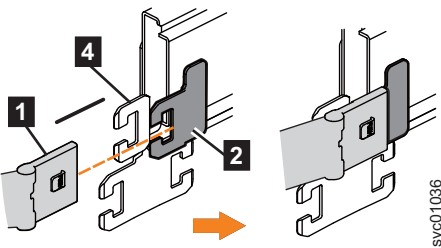

Figure 45. Install the inner connector of the upper CMA to the inner member of the support rail
2. Install the inner connector of the upper CMA assembly (1) to the inner member of the left support rail (2), as shown in Figure 45 from the outer and inner support rails.